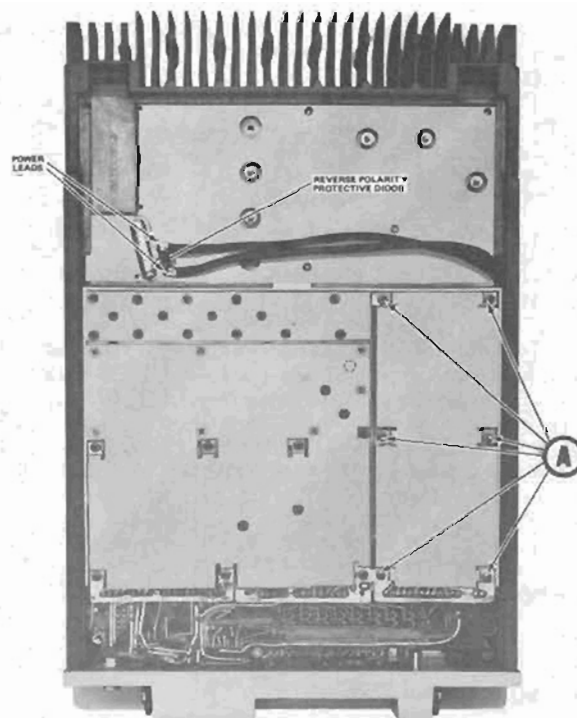

Figure 6 - Disassembly Procedure Bottom View
1. Unplug the exciter/PA cable (B).
2. Remove the six screws (A) holding the exciter board and its bottom cover to the module mounting frame (see Figure 6).